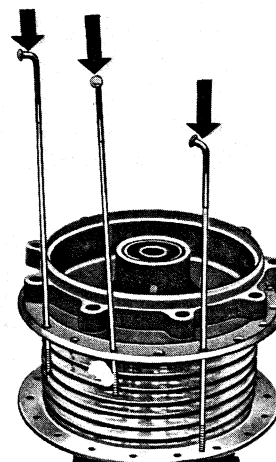

Fig. 3.3
**Note!** On Leleu rear-hubs must these nine spokes be mounted to the right of the sprocket bolt holes. See fig. 3.3.